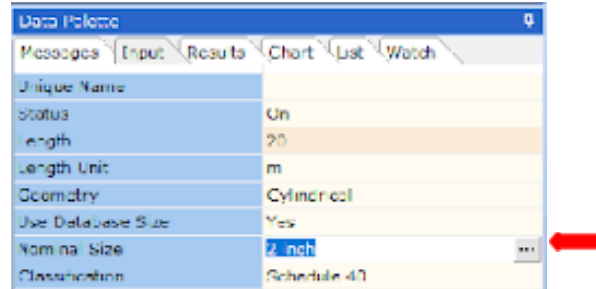

**Figure 15: Highlighted Pipe.**
- Let us now edit the default pipe data by selecting pipe number -1. You should now see that pipe number -1 is highlighted on the flowsheet (Figure 15).